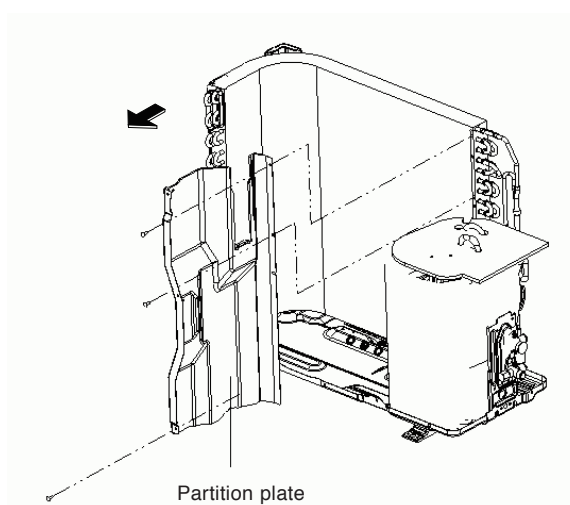

Fig. 60
- (1) Loosen the 2 screws. (Fig.60)